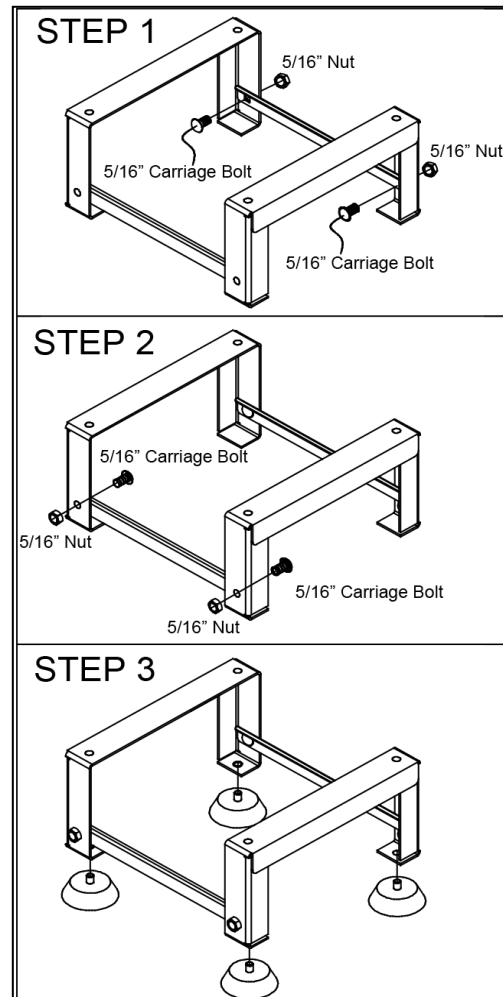

Figure 8 - Assembling the 40 Gallon Model Water Heater Stand
1. Use a 5/16" socket and two (2) carriage bolts and nuts to connect a cross beam to two legs. See Figure 8, Step 1.
2. Use a 5/16" socket and two (2) carriage bolts and nuts to connect a cross beam to the other legs. See Figure 8, Step 2.
3. Lower the assembled stand onto the feet. See Figure 8, Step 3.